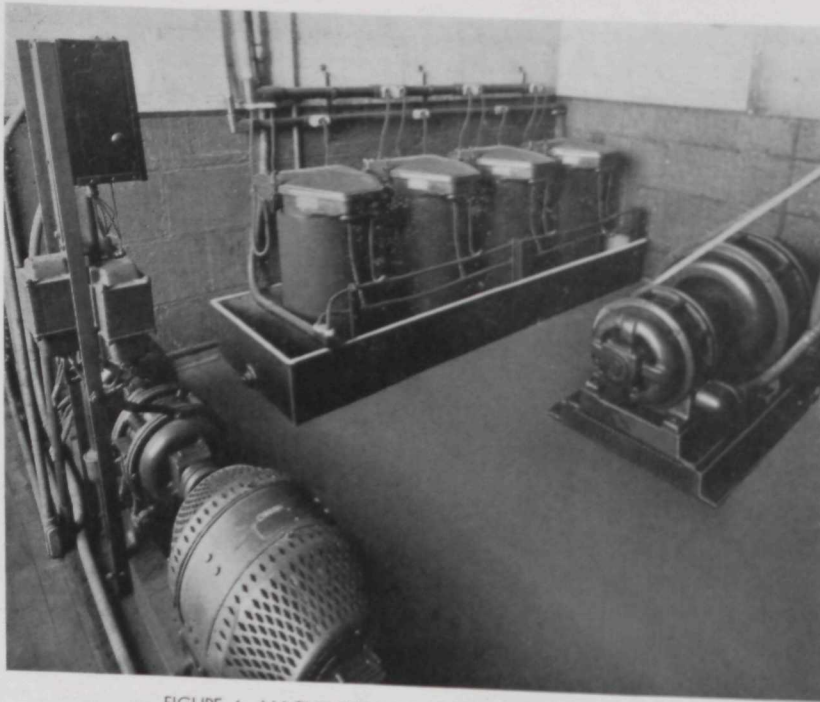

FIGURE 4—MACHINERY ROOM, LIFE TEST LABORATORY
FIG. 4—SAMPLE OF THE PRODUCTION TEST CURVES MADE ON EACH VELOCITY MICROPHONE THIS SHOWS THE CURVE OBTAINED BEFORE ALLOWANCES ARE MADE FOR IRREGULARITIES IN LOUDSPEAKER CHARACTERISTICS.)
sample curve so made is shown in Figure 4. The separate curves obtained with the two loudspeakers can be observed. Such a set of curves is made on each Velocity Microphone and these curves are then compared with similar curves made on the standard microphone. No microphone is shipped unless the curves which are made on it are closely the same as those for the standard. Actually, however, the characteristics of these microphones are almost wholly determined by the inherent design, and rejections on this account are therefore very rare.
A note of caution must be added regarding the curves of Figure 4. The scale used is, of course, arbitrary and is purposely made as large as possible to facilitate comparison. The irregularities of these curves are
Figure 4 is a view of the machinery room equipped with two (2) double voltage direct current machines to supply 4000 volts direct current in steps of 1000 volts. (Increments of this voltage being obtained by a control panel in the main life test laboratory.) A 25 KVA 120 cycle alternator feeding four (4) ten (10) KVA transformers and a large reactor (to correct power factor) serves to sup-